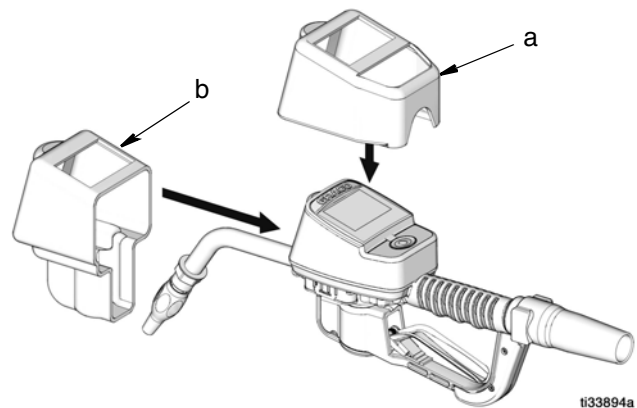

FIG. 19
1. Install the bezel guard (a) over the meter bezel as shown in FIG. 19.
2. Then install the housing guard (b) over the nozzle/extension and onto the meter and bezel guard (a) as shown in FIG. 19.